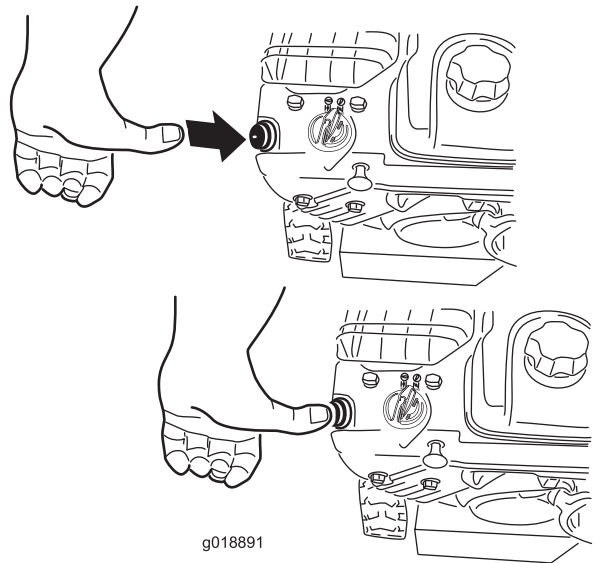

Figure 22
4. Firmly push in the primer with your thumb 2 times (15°F or -9°C or above) or 4 times (below 15°F or -9°C), holding the primer in for a second before releasing it each time (Figure 22).